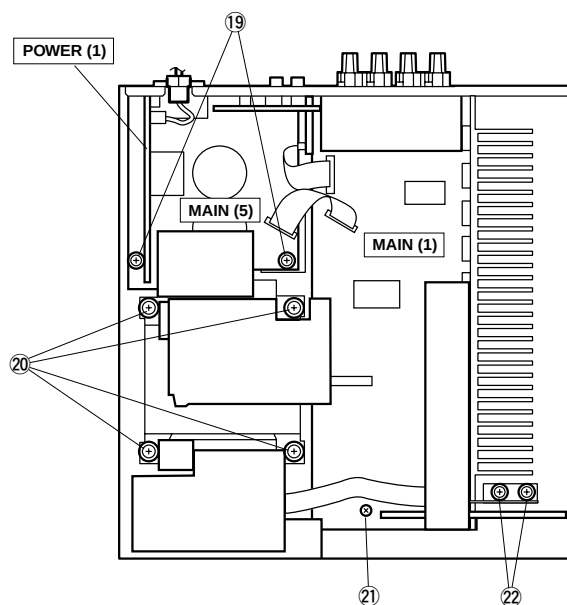

Fig.8
- Remove 4 screws (20) and then remove the Power Transformer in Fig. 8.